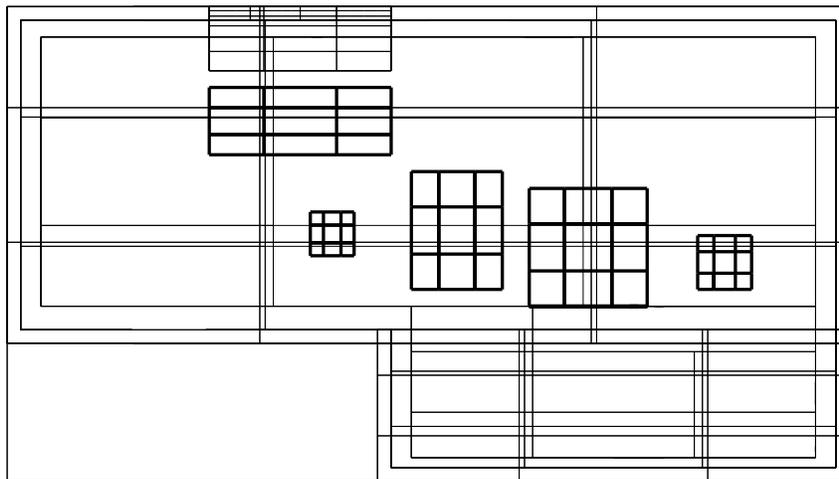

Figure 4.2.6: Five Families of CAD Objects
If you select a group of families in **Airpak**, **Airpak** can convert each family in the group into an **Airpak** object. For example, if the five shapes shown in bold in Figure 4.2.6 represent five different families, you can select all of these families at once and **Airpak** can convert each family into an **Airpak** object.
- (b) Under **Shapes to try**, select the shapes that you want Airpak to try to fit to the families. For example, if the five shapes shown in bold in Figure 4.2.6 are to be converted into five prism-shaped blocks, select **hexa (prism)** in the CAD data panel and deselect all other shapes under **Shapes to try**.